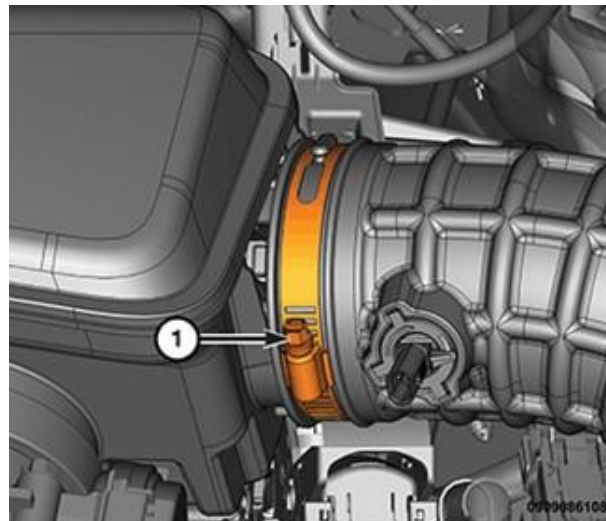

Figure 10 – Inlet Air Hose Clamp
18. Loosen the clamp (1) and disengage the clean air inlet hose from the resonator (Figure 10).